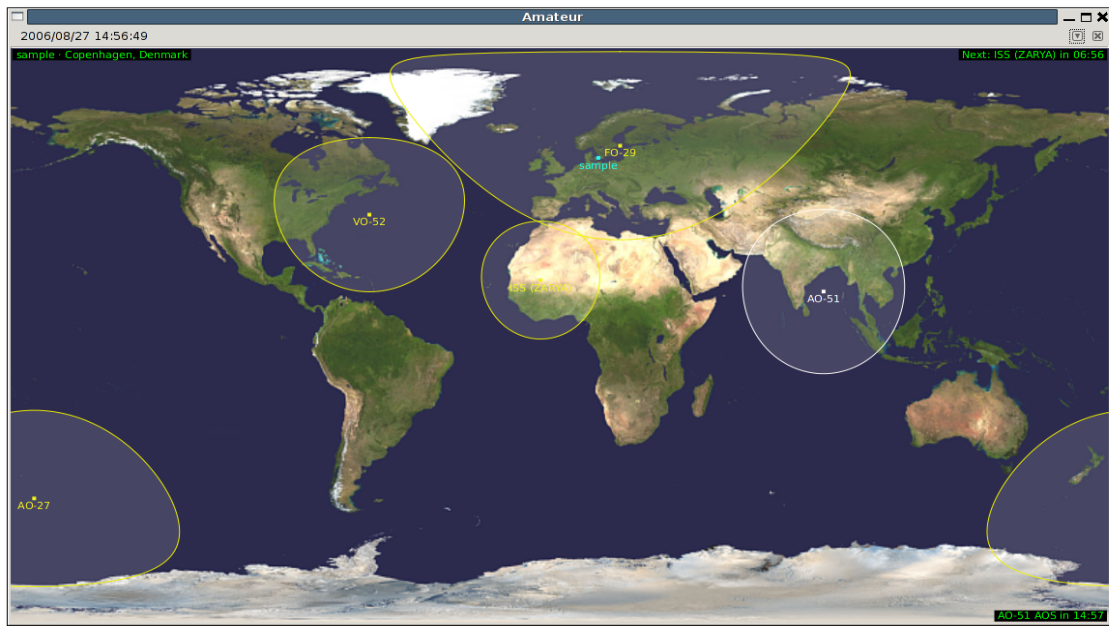

Figure 4.2: The map view using the default settings.
Figure 4.2 shows how the map view looks like using the default settings. As you can see, the satellites are shown as small yellow squares with their name is printed just below the square4. The footprints of the satellites is drawn using the same colour as the satellite mark and label, and the area covered by the footprint is highlighted using transparent white colour.
As you can see on figure 4.2, satellite AO-51 is drawn in white instead of yellow. This means that AO-51 is selected. You can select a satellite by simply clicking on it with the left mouse button. You can click anywhere within its footprint area. The selected satellite will have its next AOS or LOS time shown in the lower right corner of the map view. Selecting a satellite will clear any other selection, that is you can have only one satellite selected at a time. You can also clear your selection by clicking once more on the selected satellite.
- **Next Event:** Checking this box will show in the upper right corner which satellite will come up next as when it will come up. The time is shown as a countdown to the event. Figure 4.2 shows that the next satellite will be ISS (ZARYA) and that it will come up in 06m56s. Please note that the countdown is not necessarily updated in real-time. Actually, it is only updated every time the map view is refreshed, see description of refresh rates in section 2.3.3 – Module Properties.